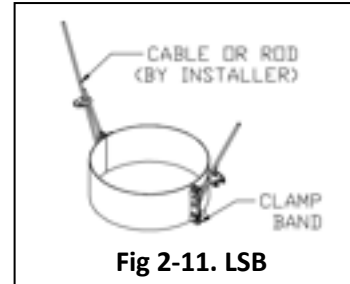

Fig 2-11. LSB
The band firmly clamps around the pipe outer jacket and includes four (4) 1/4" x 20 stainless steel nuts and bolts. Remaining hole in the middle where wires or threaded rods (by the installing contractor) are used for support or guiding back to the building structure. See Fig 2-11.